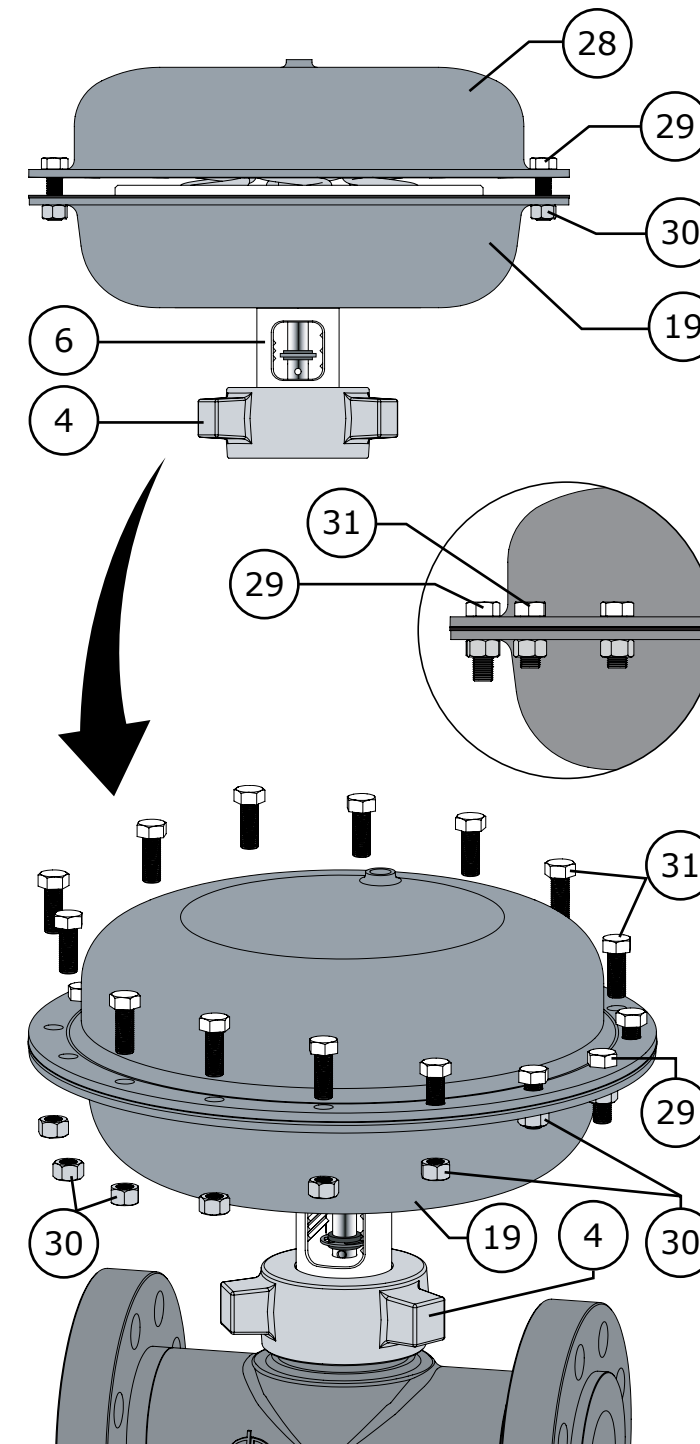

Figure 43 Short Cap Screw Installation (Fail Closed)
- Using two 9/16" wrenches or socket set, evenly tighten the two **long** cap screws (Key 29) using an alternating pattern until the 10 **short** cap screws (Key 31) can be installed and the nuts (Key 30) threaded on. It is not recommended to completely tighten any of the cap screws until they are all inserted through the casings (Keys 19 & 28) as the diaphragm (Key 23) may need to shift during installation. Refer to Figure 43.